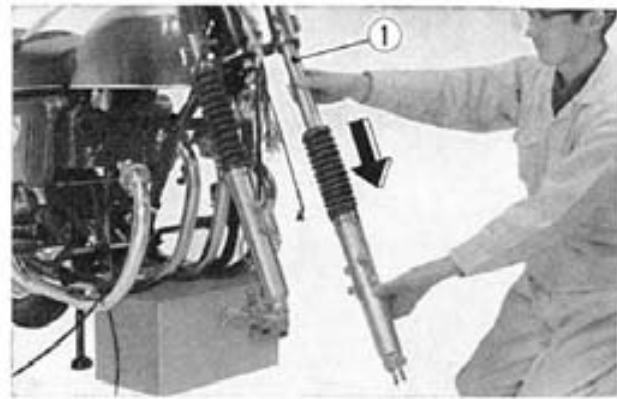

Fig. 11-12 ① Front fork
3. Loosen the 8×56 mm front fork pipe mounting bolts (located on the fork top bridge) and the 10×40 mm front fork pipe mounting bolts (located on the steering stem). Pull the front fork gently out the bottom. (Fig. 11-12)